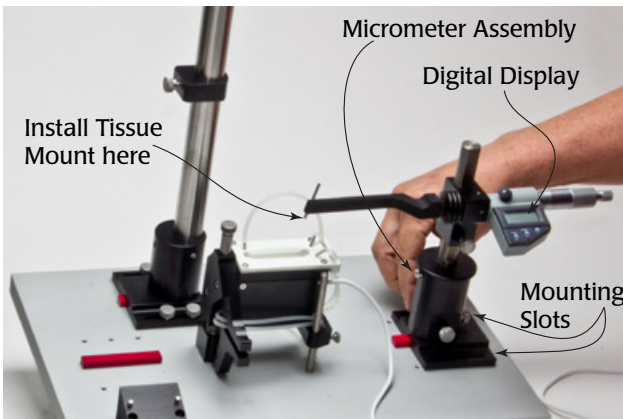

Fig. 8— Micrometer assembly
3. Position the micrometer assembly (Fig. 8) on the right side of the base so that the mounting slots on the micrometer align with the holes in the base plate. Make sure that the digital display of the micrometer faces the front of the base plate. Use the four outside holes and insert four thumb screws through the slots on the base of the micrometer assembly and into the screw holes. The position of the micrometer is flexible, depending on the screw holes you choose and how you position the micrometer assembly. When the micrometer is in the position, tighten the thumb screws.
4. Gently slide the tissue mounting hook up on the pin the extends from the arm of the micrometer (Fig. 8). Some mounting hooks require an adapter (Fig. 9).